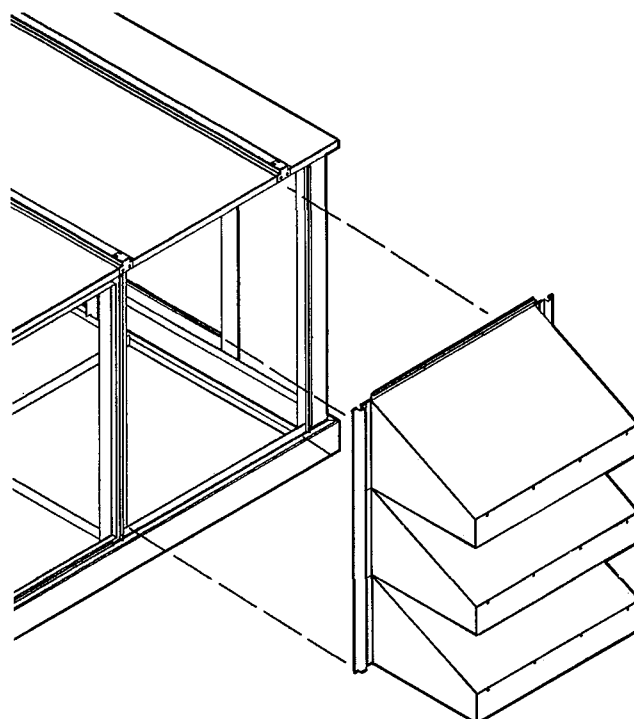

Fig. 11 – Economizer Hood Installation
14. See Fig. 11 and place economizer hood assembly over outdoor-air opening.